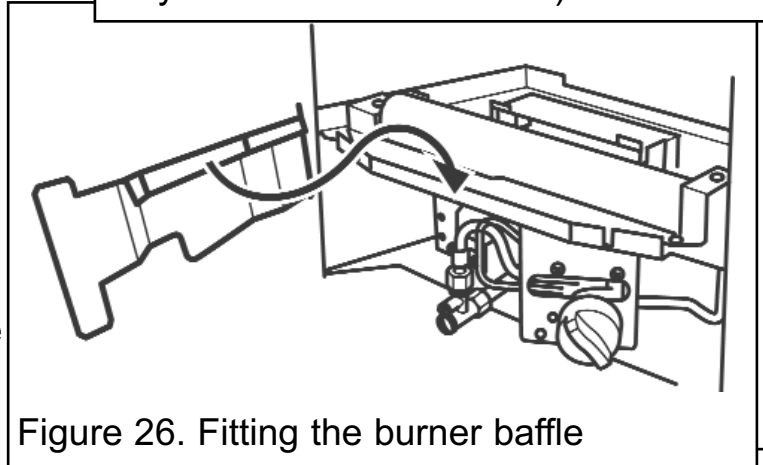

Figure 26. Fitting the burner baffle
4. Fit the burner baffle to the front flanges of the burner. To do this, place the baffle against the front flanges of the burner and lower into position. The return edges on the rear of the baffle should slot over the front flanges of the burner (See figure 26).
of the burner (See figure 26).
- 5. *Blenheim, Camden, Seattle, Prelude and Sonnet only*** - Fit the burner baffle to the front flanges of the burner. To do this, place the baffle against the front flanges of the burner and lower into position. The return edges on the rear of the baffle should slot over the front flanges of the burner (See figure 26).